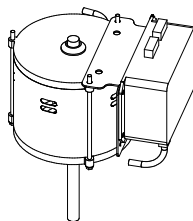

Figure 1
1. Refer to Figure 1, attach bracket to top of motor using two motor thru-bolts. Fasten down with two #8-32 nuts provided.